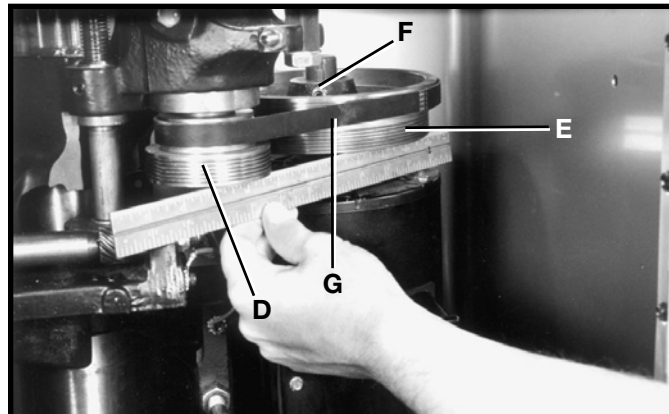

Fig. 45
2. The spindle pulley (D) Fig. 45, and motor pulley (E) should always be aligned with each other to provide maximum belt performance and to reduce belt wear. To check the pulley alignment, place a straight edge against the underside of both pulleys (Fig. 45). If an adjustment is necessary, loosen the set screw (F) and move the motor pulley up or down until the two pulleys (D) and (E) are aligned. Tighten the set screw.
3. Proper belt tension is approximately a 3/32" deflection when using light finger pressure on the belt between pulleys (D) and (E) Fig. 45.